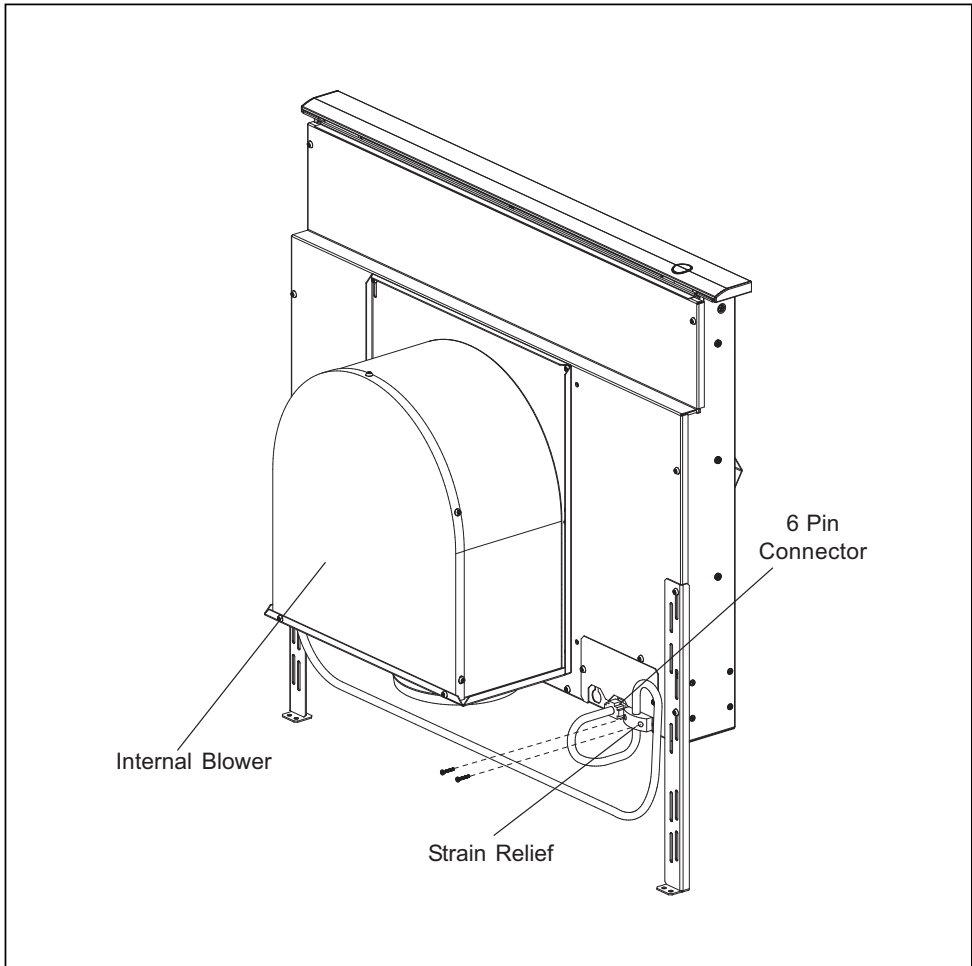

Fig. 10 – Internal Blower
**Integral Blower** (see Figures 10 and 12 for further detail):
- A. Remove junction box cover and connect conduit with 5 wires from remote blower. Hook up wires per Wiring Diagramm. Fig. 10. Replace junction box cover.